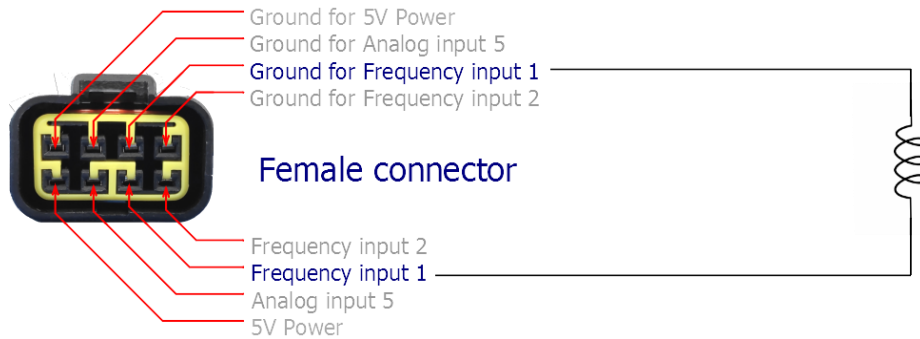

Figure 12: Passive P-lead sensing from magnetos (view from unit side)
- Passive P-lead sensing from magnetos (inductive pickup) - Figure 12: Passive P-lead sensing from magnetos